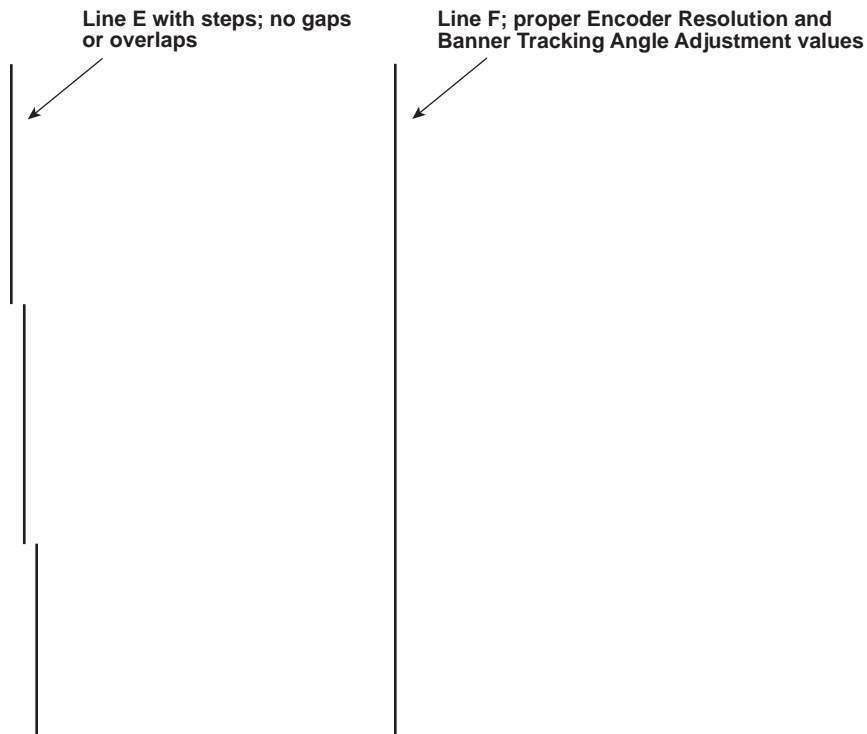

Figure E-6 Illustration of line showing “stair steps” between Banner Windows.
- 4 If the mark produced by the banner tracking setup file has "stair steps" as shown by line "E" in Figure E-6, fine-tune the Banner Tracking Angle Adjustment value, increasing or decreasing the angle in the range of -0.15° to $+0.15^\circ$. If you cannot eliminate the steps within the allowable range of $\pm 0.15^\circ$, you will need to carefully change the physical angle of the marking head/laser assembly in relation to part movement. Continue fine-tuning the Banner Tracking Angle Adjustment until all three lines in the setup file are solid, straight lines as demonstrated by line "F" in the following figure.